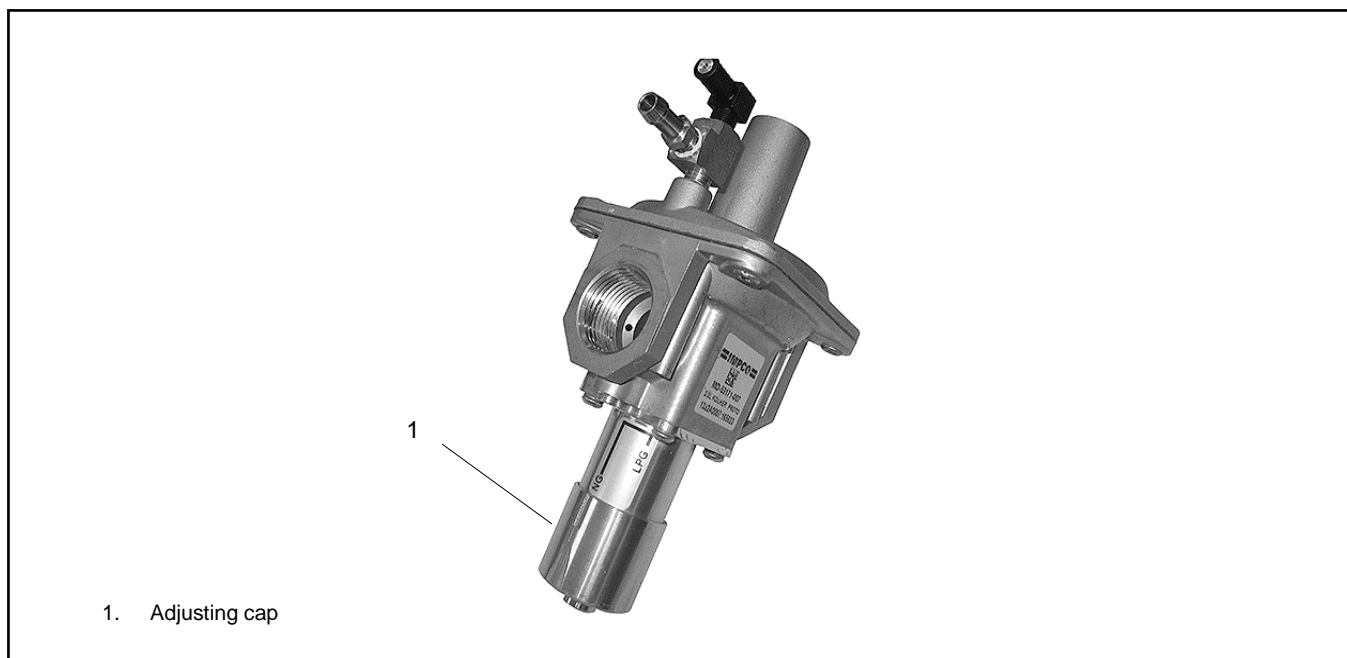

Figure 15 Regulator
1. Push the adjusting cap to its upper stop and rotate clockwise, release upward pressure, and lock into place. See Figure 15.
2. Push up on the adjusting cap and rotate counterclockwise. Release upward pressure, and lock into place. See Figure 15.